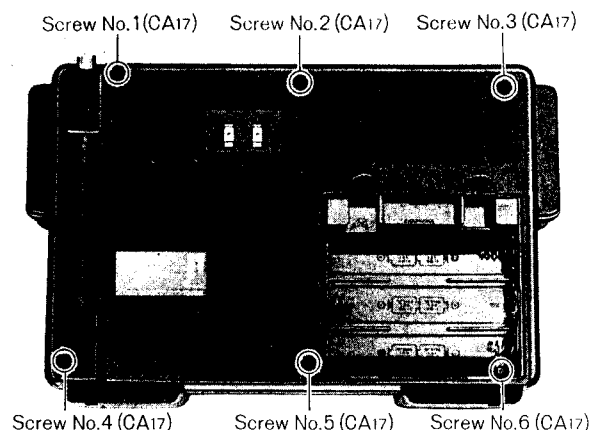

Fig. 1
2. Remove the six (6) screws (nos. 1~6) for the cabinet cover, as shown in fig. 1.